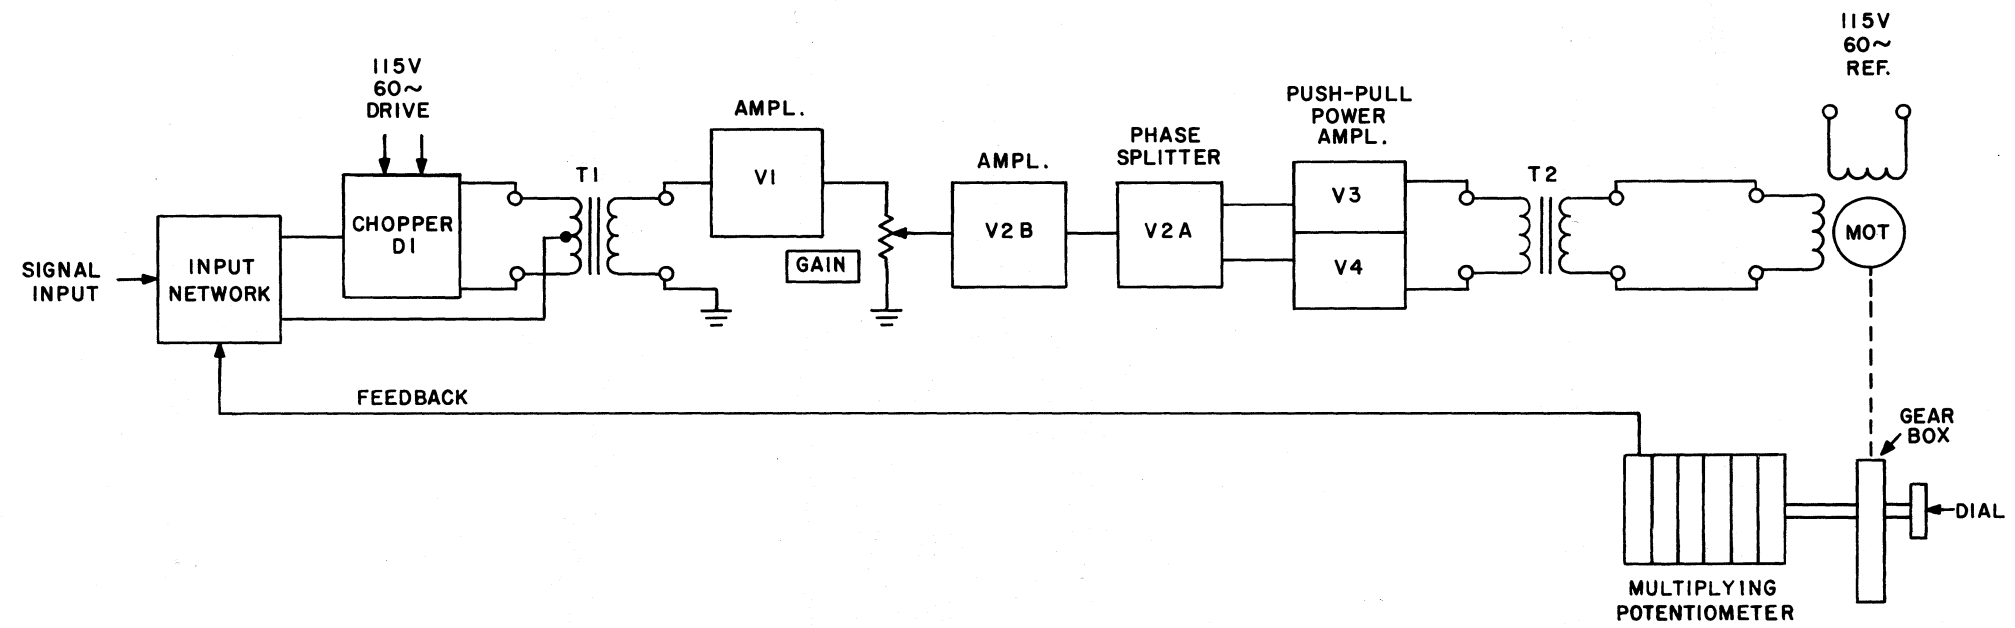
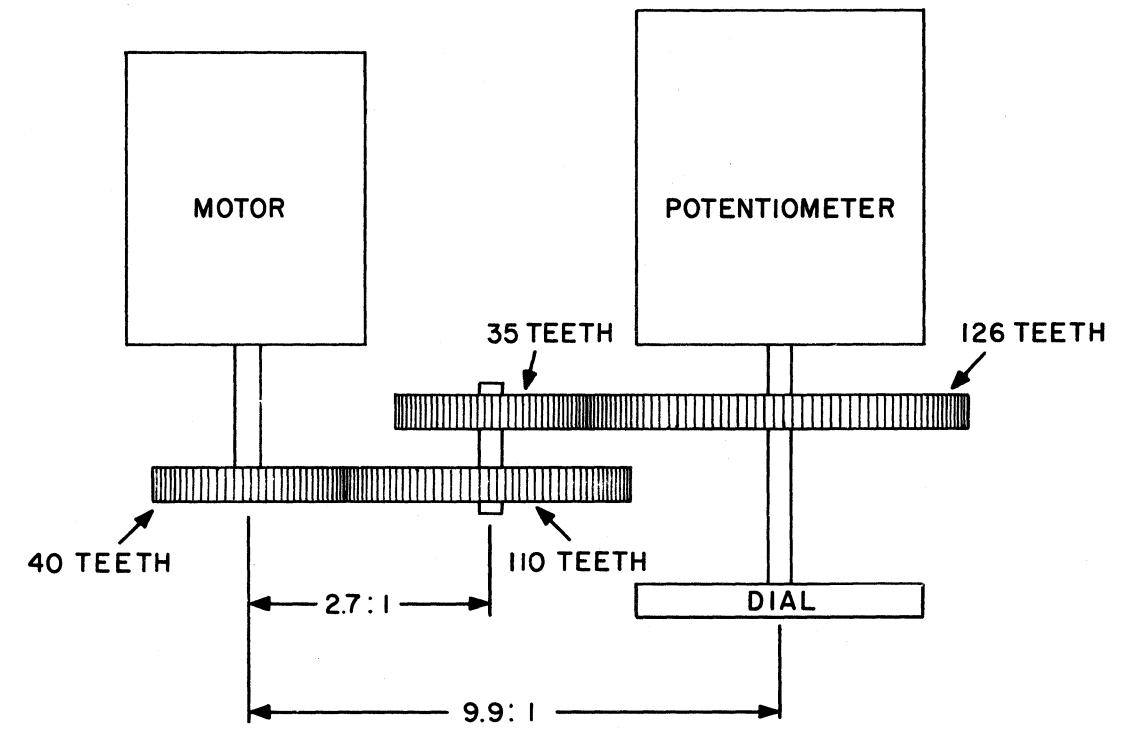

Figure 24.
Figure 25. 7.084 Gear Train Schematic
The multiplier circuitry consists of a servo amplifier (with input network and modulator), servo motor, gear train and a multiplying potentiometer. The servo amplifier provides positioning power to the servo motor from two sources: (1), a common variable signal coupled to the signal input; and (2), the feedback voltage (FB). The signal input represents the magnitude of the common variable by which the other variables are to be multiplied. The feedback voltage is derived from the wiper arm of the feedback cup of the multiplying potentiometer (see Figure 24). Coupling of the servo motor to the multiplying potentiometer is provided by a gear train with a ratio of 9.9:1, motor to pot. (See Figure 25.)